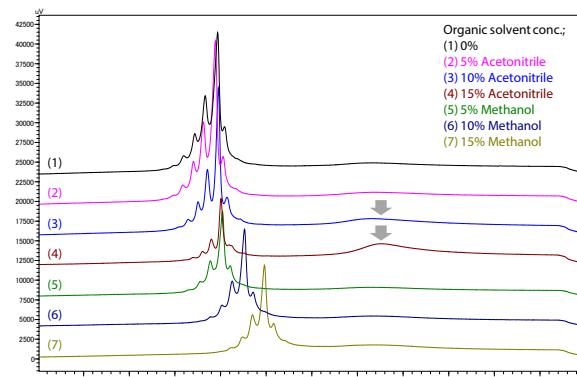
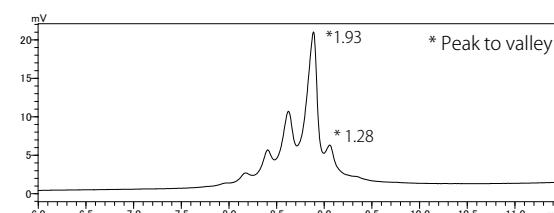

Fig. 5 Chromatograms with Different Ratios of Acetonitrile or Methanol in the Mobile Phase
Fig. 6 Chromatogram of Highest Peak-to-Valley Ratios of the Main Peak and Peaks Before/After Main Peak
Based on the optimal MES-HEPES-sodium acetate concentration in the mobile phase determined from the screening phase, analytical conditions were further optimized for the organic solvent ratio in the mobile phase by varying the acetonitrile or methanol ratio (5, 10, and 15 %). The resulting chromatograms in Fig. 5 show that the organic solvent ratio in the mobile phase affected the separation of charge variants, where the higher the acetonitrile ratio, the sharper the detected peaks. However, at 10 % and 15 % acetonitrile ratios, baseline fluctuations were observed around a retention time of 12.5 minutes (indicated by the gray arrows in Fig. 5), which seemed to occur due to the denaturation of the ADCs caused by the addition of acetonitrile.
The highest peak-to-valley ratio of the main peak or the peaks before and after the main peak was for a 5 % acetonitrile ratio in the mobile phase (chromatogram (2) in Fig. 5, which is shown enlarged in Fig. 6), whereas 10 % and 15 % acetonitrile ratios may have caused denaturation. Furthermore, Fig. 7 shows the peak-to-valley ratios of the main peak and the peaks before and after the main peak, listed in order from the highest to the lowest. Thus, LabSolutions MD enables evaluation of chromatograms by focusing on peaks of interest.
(Enlargement of Chromatogram in Fig. 5 (2))